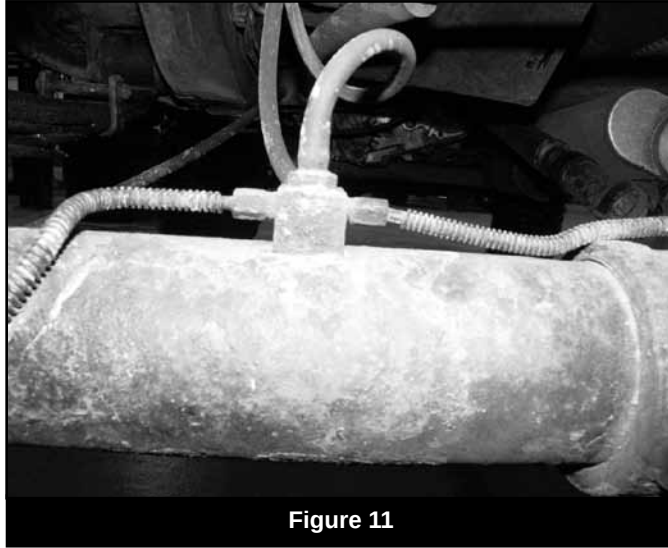

Figure 11
- 57. Unbolt brake line junction block from axle. Retain bolts. (Fig 11)